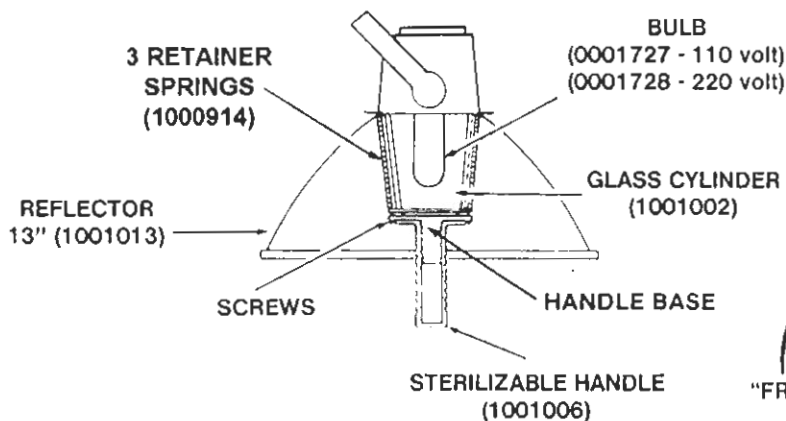

FIGURE 1
- c. Remove two of the screws inside the handle base (see figure 1).